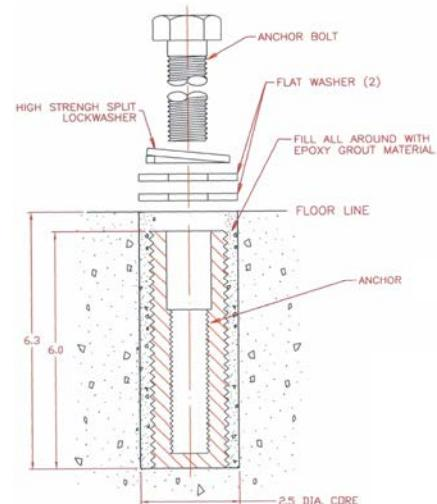

Figure 3
8. Locate brackets into place over the anchors. If using Vibro/Dynamics ABS13630-01 anchors install the anchor bolts and washers per Figure 3 and equally tighten until all bolts make contact. Torque to 250 foot/pounds using a crisscrossing pattern.